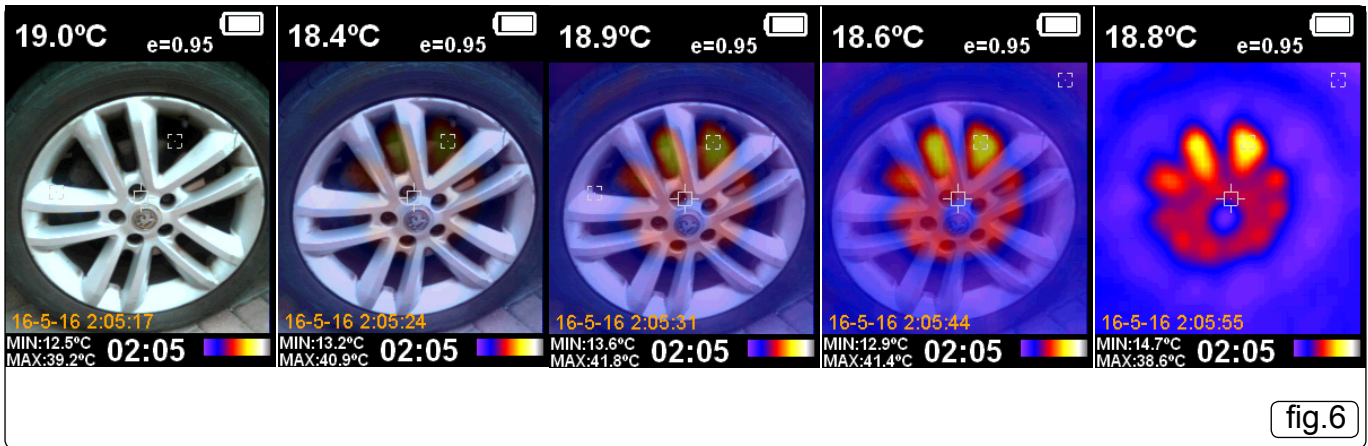

fig.6
- 4.11.1. The mixed image makes the understanding of infrared image becomes easier.(fig.6)